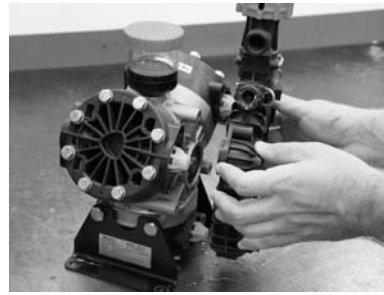

Fig. 6
1. Using a 13 mm socket, remove (9) manifold mounting bolts. **DO NOT USE IMPACT GUN ON MOUNTING BOLTS.**
2. Pull or gently pry away the manifold from the pump heads (Fig. 6). Do this so the valve pilots are completely free from the pump heads.